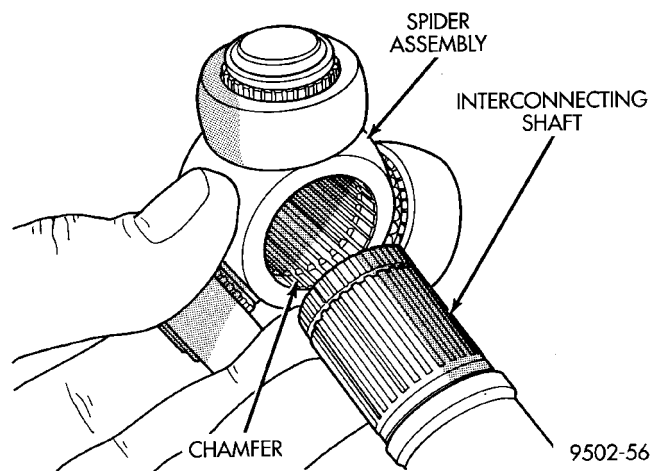
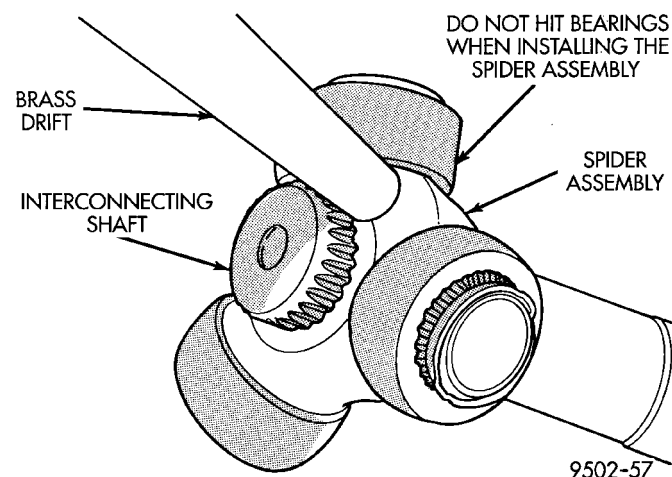

Fig. 31 Spider Assembly Installation on Interconnecting Shaft
Fig. 32 Installing Spider Assembly On Interconnecting Shaft
(2) Install spider assembly onto interconnecting shaft with chamfer on spider assembly toward interconnecting shaft (Fig. 31). Spider assembly must be installed on interconnecting shaft far enough to fully install spider retaining snap ring. If spider assembly will not fully install on interconnecting shaft by hand, it can be installed by tapping the spider body with a brass drift (Fig. 32). **Do not hit the outer tripod bearings in an attempt to install spider assembly on interconnecting shaft.**